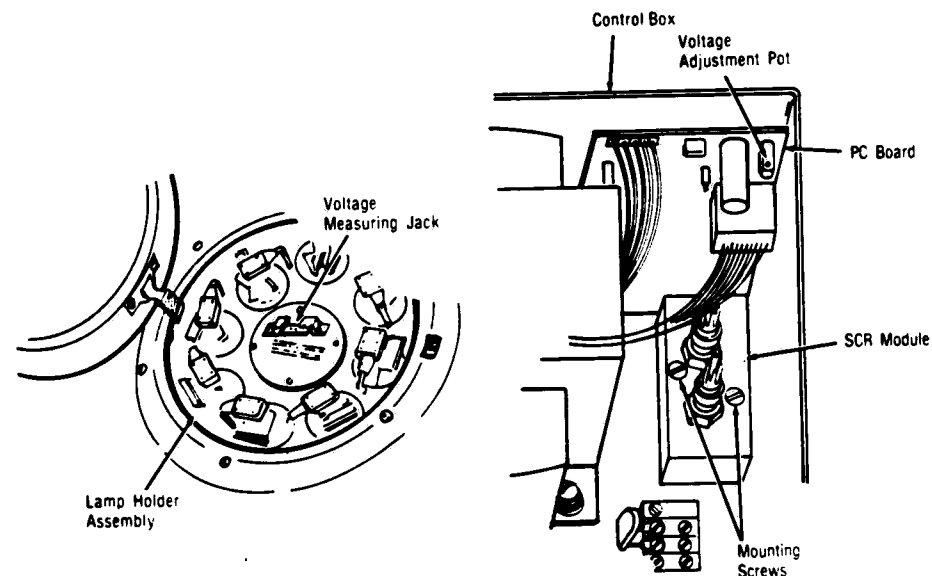

Figure 4-27. SCR MODULE LOCATION.
2. SCR module is located in upper right corner of control box. Disconnect wires to SCR module and PC board, noting connections for reinstallation. See Figure 4-27.